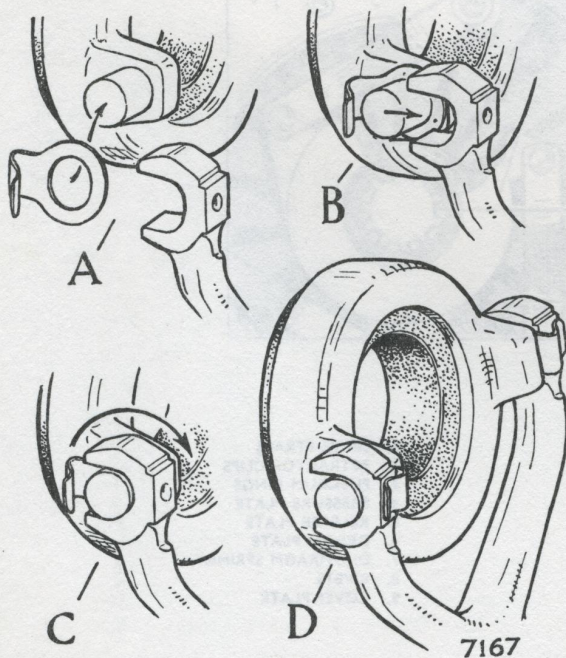

Fig. 16. Fitting Release bearing.
(See Fig. 16)
On cars which are fitted with a rear coupling, of the type illustrated in inset C, Fig. 16, the rear universal joint is dismantled in exactly the same way as the front joint after removing the coupling. For cars which are fitted with a metal to rubber
universal joint, (inset B, Fig. 16), the rear joint cannot be overhauled in service, and in the event of damage a new joint must be fitted. Normally, no purpose will be served by removing the joint from the propeller shaft, but if this becomes necessary, the universal joint and the propeller shaft should be marked before they are separated so that they can be replaced in the same position on assembly.
The release bearing assembly is retained to the clutch fork by two spring steel clips, which are located by two flats on the reverse side of the fork. (See Fig. 16).
Rotate each retaining clip into position (C) until it locates on the flat on the fork. (D). (See Fig. 16).